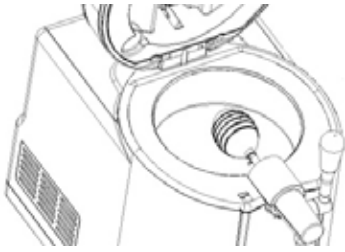

Fig. 12
17. To clean the tap, you can also connect the cleaning ball directly to the beer hose on the tap. Now pump the water through the open tap (Fig. 12).